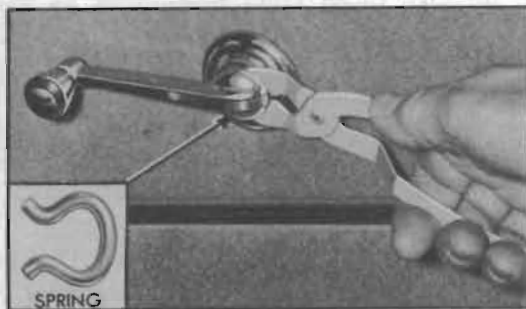

Figure 13-44—Removing Handle Retaining Spring With Pliers KMO 601
1. Remove all door inside handle by pushing inward on the escutcheon and removing the handle retaining spring, using Door Handle Pliers KMO 601. A slight rotating motion of the pliers will easily remove the retaining spring. See figure 13-44.